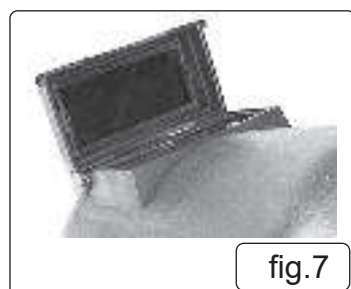

fig.7
6.1.1. Flip up the front shade lens holder (fig 7).